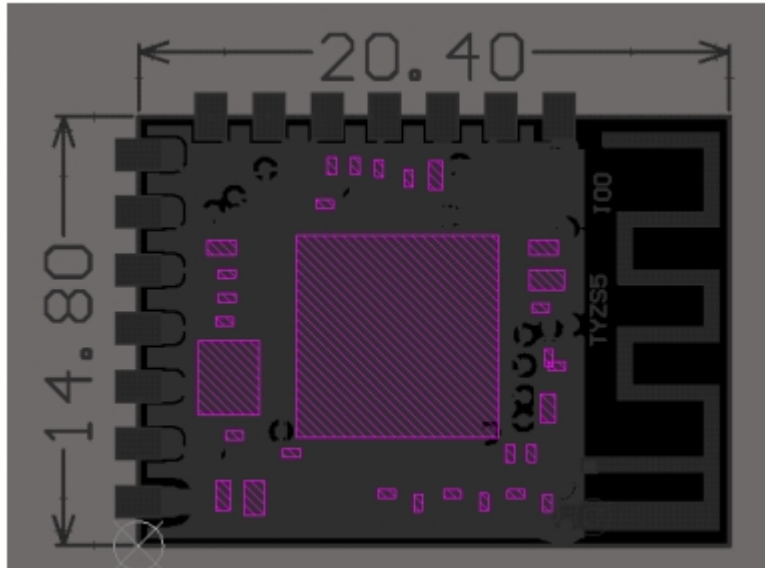

Figure1. TYZS5dimensional drawing
TYZS5 dimensions: 14.8mm (W) x 20.4mm (L) x 2.0mm (H), TYZS5 dimensions are as shown in Figure 1: